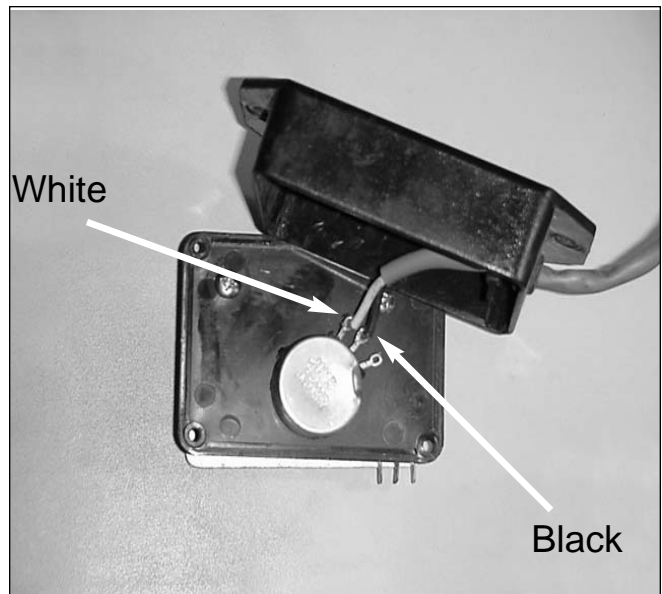

Figure 22 - Pot Switch Wires
2. Connect black wire to center tab and white wire to left tabs of pot switch. Solder pot switch wires to pot switch tabs. See Figure 22.
4. Route wires along frame to speed control module. Connect white lead wire to # 2 tab terminal and black lead wire to # 3 tab terminal on speed control module. See Figure 22.